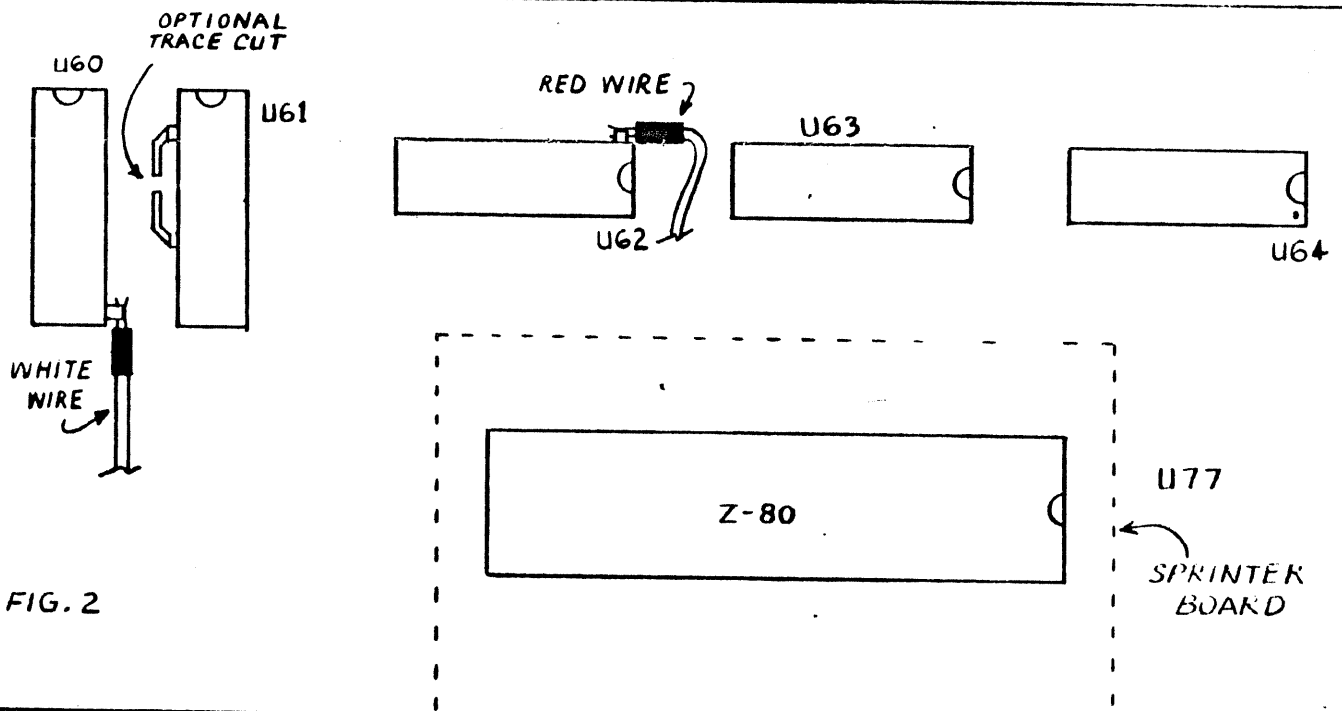

FIG. 2
<> Referring to fig. 2, push the solderless clip at the end of the red wire onto pin 1 of U-62 on the Model III main circuit board. Place a small piece of tape on or under the wire to keep it in place.
<> Referring once again to fig. 2, push the solderless clip on the end of the white wire onto pin 9 of U-60 (this is the VIDEO signal used to slow the SPRINTER III to normal speed during video operations.) \* \* SPECIAL NOTE \* \* YOU MAY BE ABLE TO USE YOUR SPRINTER WITH THE WHITE WIRE DISCONNECTED, ESPECIALLY IF YOU ARE RUNNING AT LESS THAN 5 MHz. YOU MAY WISH TO TRY THE SPRINTER WITHOUT THE WHITE WIRE CONNECTED, THEN CONNECT IT IF YOU HAVE VIDEO PROBLEMS. LEAVING THE WHITE WIRE DISCONNECTED MAY INCREASE THE OPERATING SPEED OF YOUR SYSTEM.
(1) If your system seems to run OK some of the time, but seems to have some minor problems, you may be able to achieve reliable high-speed operation by replacing the first 16K of RAM with some "special" RAM chips available from your dealer or HOLMES ENGINEERING. These enhanced chips have pull-up resistors soldered to the data lines which improve the high speed performance of the enhanced chips AND ANY OTHER RAM CHIPS INSTALLED IN THE MODEL III! (If microcomputer designers would read the manuals published by the companies who manufacture the RAM chips, they would put these resistors on the computer's circuit board in the first place!)
(2) If you don't mind cutting a trace on your computer's circuit board, cut the trace connecting U-61 pin 2 to U-61 pin 5 on the top side of the board (see fig. 2). THIS TRACE CUT WILL NOT AFFECT THE NORMAL OPERATION OF YOUR SYSTEM AT ANY SPEED; it will only speed up the timing signals being sent to the memory chips and help high-speed operation.
(3) As a last resort, you may have to replace your RAM chips. If you do so, purchase ONLY PRIME NEC 150 nanosecond chips (upD 416-3) from a reputable dealer (such as HOLMES ENGINEERING or an authorized HOLMES dealer)! Don't buy "bargain basement" chips regardless of their speed ratings or their brand name (there are some "black market" NEC chips around which are no better than unmarked chips). Bargain chips are not worth the lost time and frustration they cause.